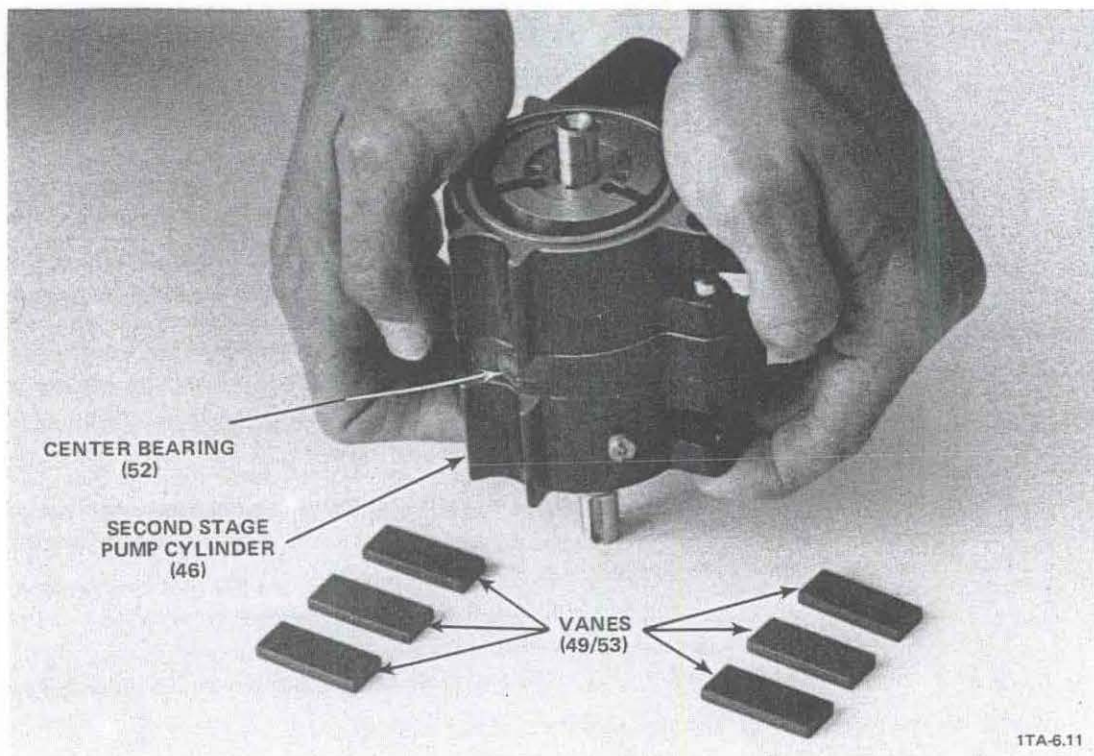

Figure 5-20. Pulling the Second Stage Pump Cylinder Tight Against the Center Bearing (D2A Pump Model Shown)
d. Attach the assembly that you put together in Step b(3) to the second stage pump cylinder as follows (see Figure 5-20):
(1) Take the assembly from Step b(3) and insert its second-stage end (the end that has the longer section of the shaft) down into the second stage pump cylinder (46).
(3) **NOTE:** When Step d(3) is completed, the beveled ends of the two long cylindrical pins (65) should extend most of the way through the upper alignment holes in the second stage pump cylinder (46).
REQUIRED ACTION: For the D2A, D4A, D8A, and D16A pump models, while keeping the assembly vertical, pull the second stage cylinder (46) straight up over the long cylindrical pins (65) until it is **tight** against the center bearing plate (52) (see Figure 5-20).
- f. While keeping the partially assembled module vertical, fit an O-ring (47) into the O-ring groove on the HV-cylinder (55) surface that is facing up (see Figure 5-20).
- g. Attach the rear end plate (60) to the partially assembled module as follows:
- (1) **NOTE:** Be sure to attach the rear end plate (60) to the **HV-stage end** of the module. The HV pump cylinder (55) is the one with the intake tube portion.